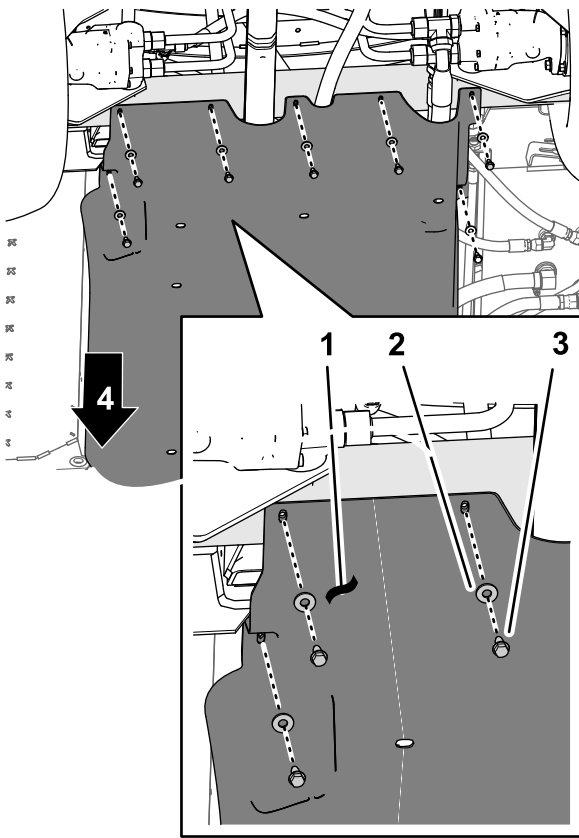
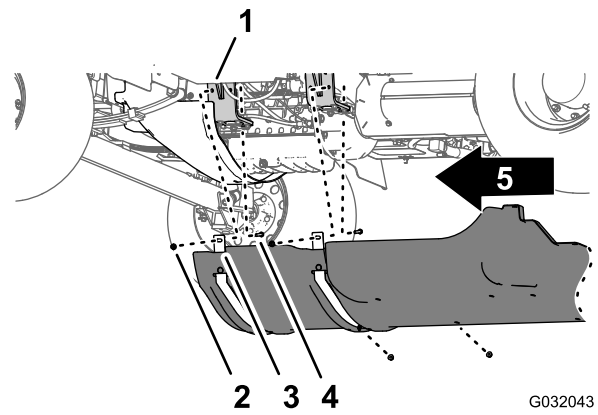

Figure 22
Figure 23
1. Remove the 7 flange-head bolts (5/16 x 7/8 inch) and 7 washers (5/16 inch) that secure the rear of the undercarriage shroud to the chassis of the machine (Figure 22).
- Remove the 4 flange locknuts (5/16 inch) from the bolts and carriage bolt that secure the support straps of the undercarriage shroud to the engine-mount brackets of the machine (Figure 23).
- Remove the undercarriage shroud from the machine (Figure 22 and Figure 23).